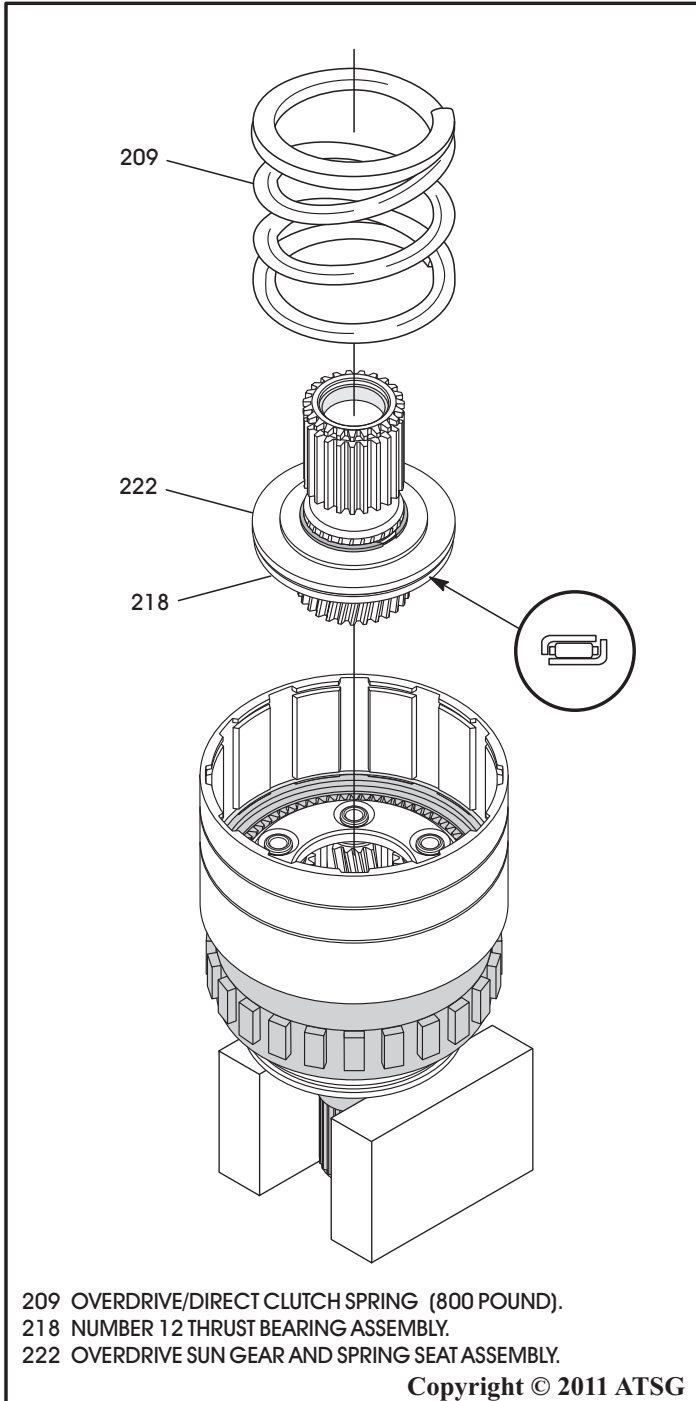

Figure 178
18. Install the completed overdrive sun gear, spring seat and bearing assembly into the overdrive planetary carrier with a twisting motion until fully seated (See Figure 178).
19. Install the overdrive direct clutch spring onto spring seat, as shown in Figure 178.